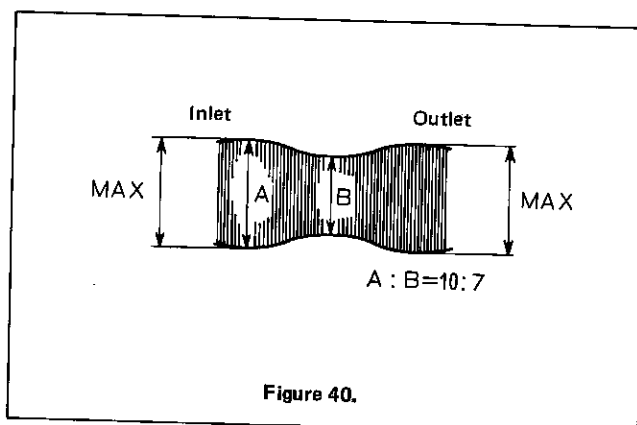

Figure 40.
5. Make adjustment in such a manner that, in Figure 40, the ratio of B to A is greater than 7/10 even when the tracking control is moved and width A of the RF waveform begins to decrease.